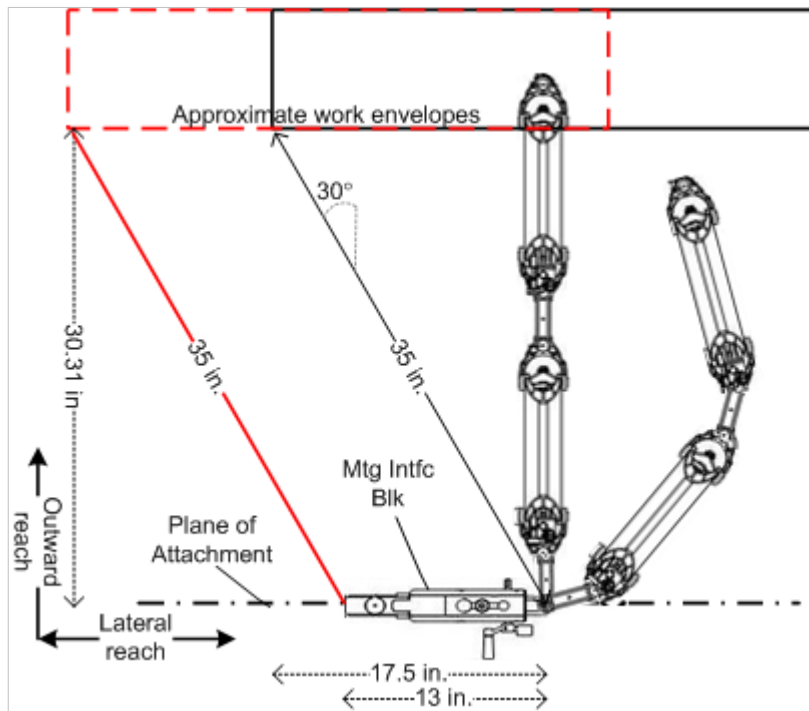
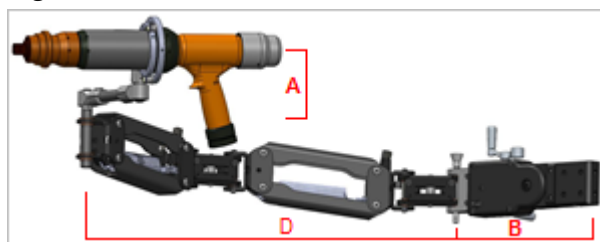
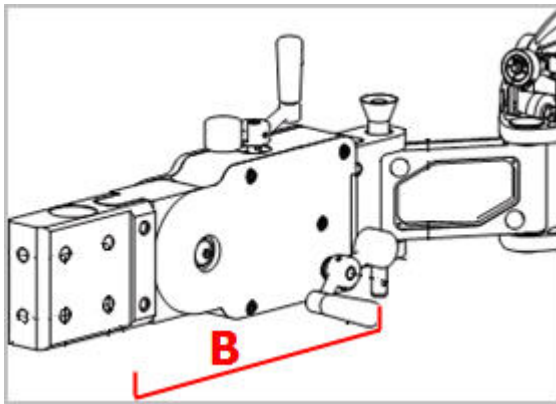

Figure 1 Outward and lateral reach
Figure 2 Spans A, B, and D
Figure 4 Span B
1. Measure the vertical reach of the post and gimbal (span A, Figure 2). _____
4. Measure the distance from the mounting point to the work area perpendicular to the plane of attachment (see Figure 1). _____
5. Measure the horizontal offset from the mounting point provided by the mounting interface block and other mounting apparatus (span B, Figure 2 and Figure 4). _____ As Figure 1 shows, this doesn't affect the outward reach much if it is less than 15 in., but a shorter offset can be significant if the work envelope is fairly wide, in which case you may need a moveable mounting system.